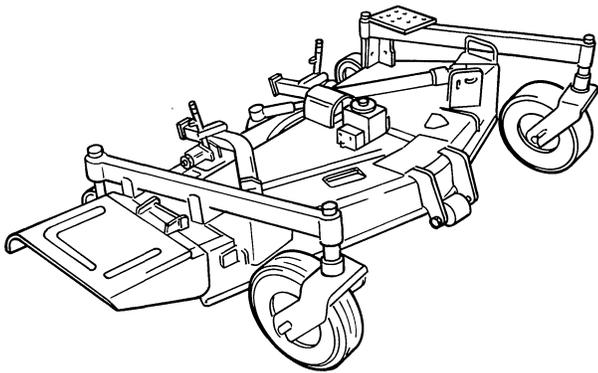

Figure 1
3. Remove both rear gauge wheels from their upside-down storage position and reinstall them from the bottom with the wheel down as shown in Figure 1.